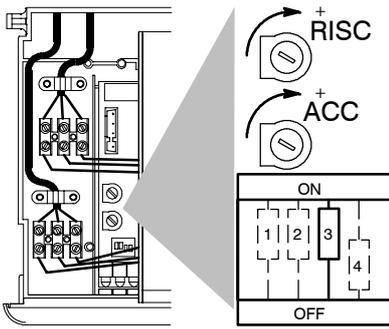

Fig. 7.8
- 14 Check the ignition gas pressure by setting dip-switch "3" (Fig. 7.8) to the OFF position. Compare the value on the gauge with the value indicated in the sections 4.6, 4.7 or 4.8 (gas pressures at the burner), accordingly with the model of boiler installed.
To adjust the ignition gas pressure, set dip-switch "3" (Fig. 7.8) to the OFF position and adjust potentiometer marked "ACC" with a screwdriver until correct ignition gas pressure is obtained.
With the boiler operating in c.h. mode, use a suitable screwdriver to turn the adjustment potentiometer marked "RISC" (Fig. 7.8). Rotating the potentiometer anti-clockwise reduces the maximum supply current to the gas modulator device, and thus reduces the gas pressure to the burner.